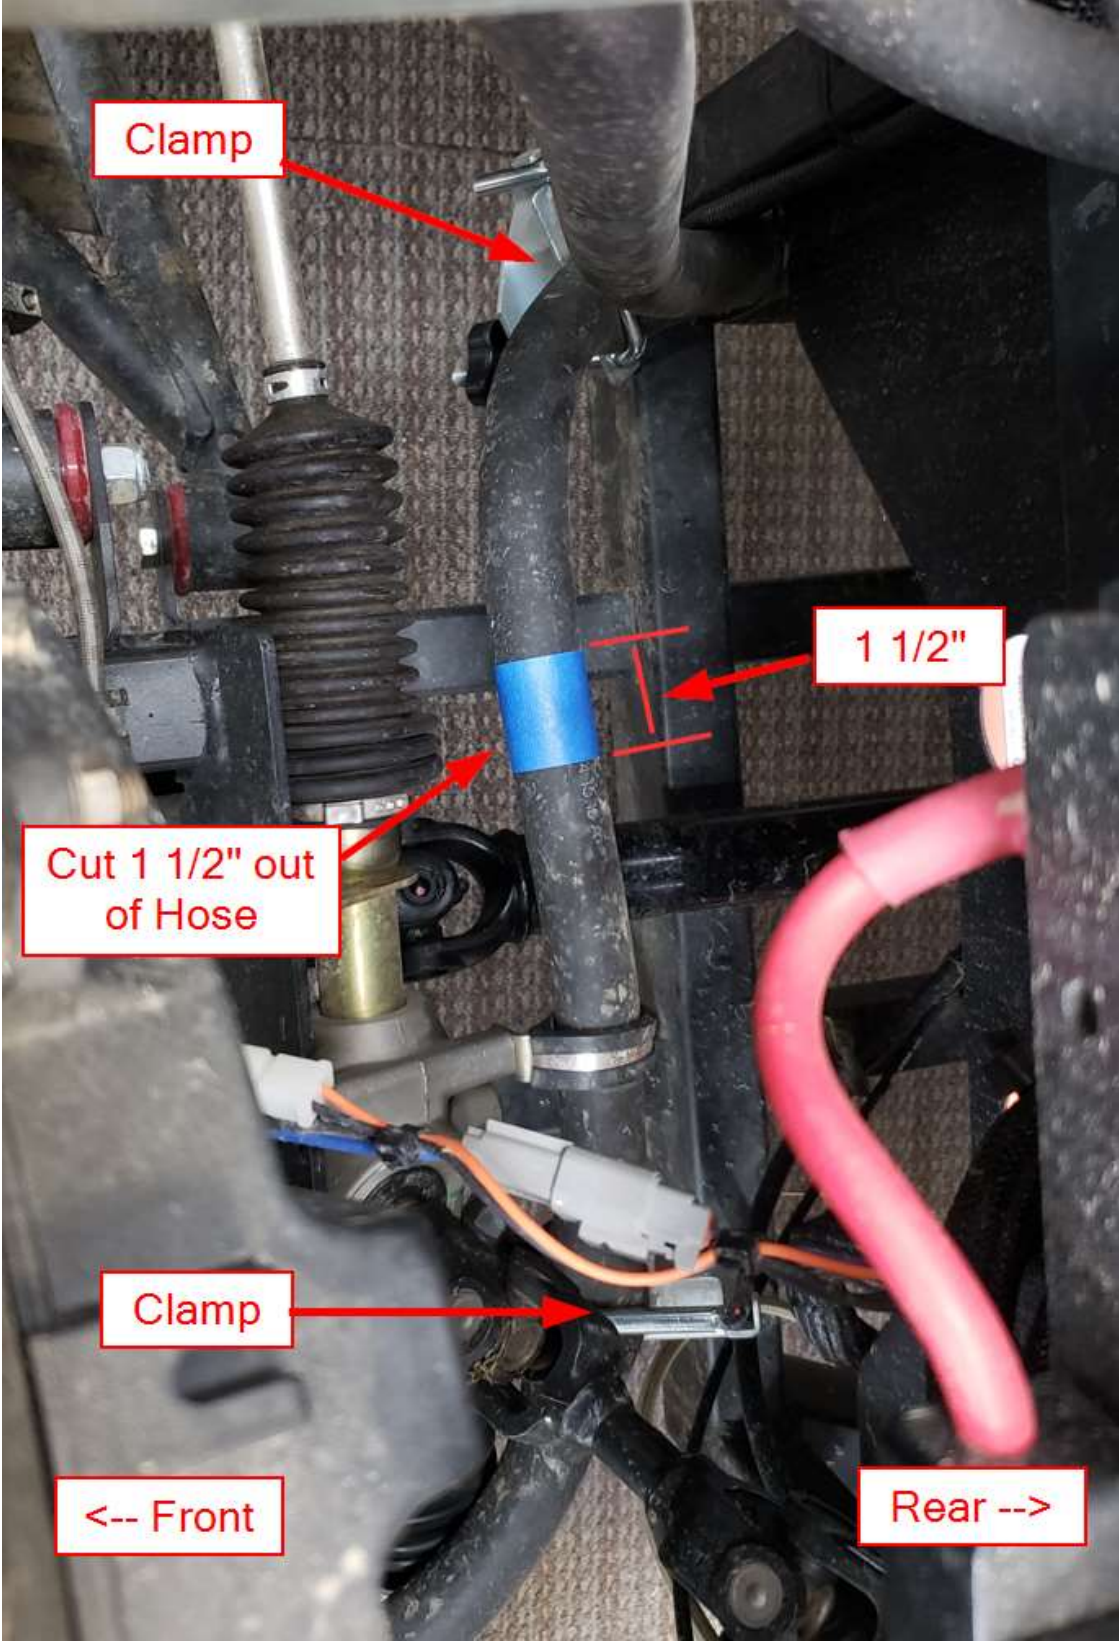

Figure 18
- d. If Hose Pinch Off Clamps are available, use them to clamp off the coolant line in front and behind the blue area shown in Figure 18. If they are not available, drain the radiator by disconnecting the lower radiator hose. Save the coolant for reuse.
- e. Mark a 1-1/2" section of hose and remove it with a razor blade as shown in Figure 18.